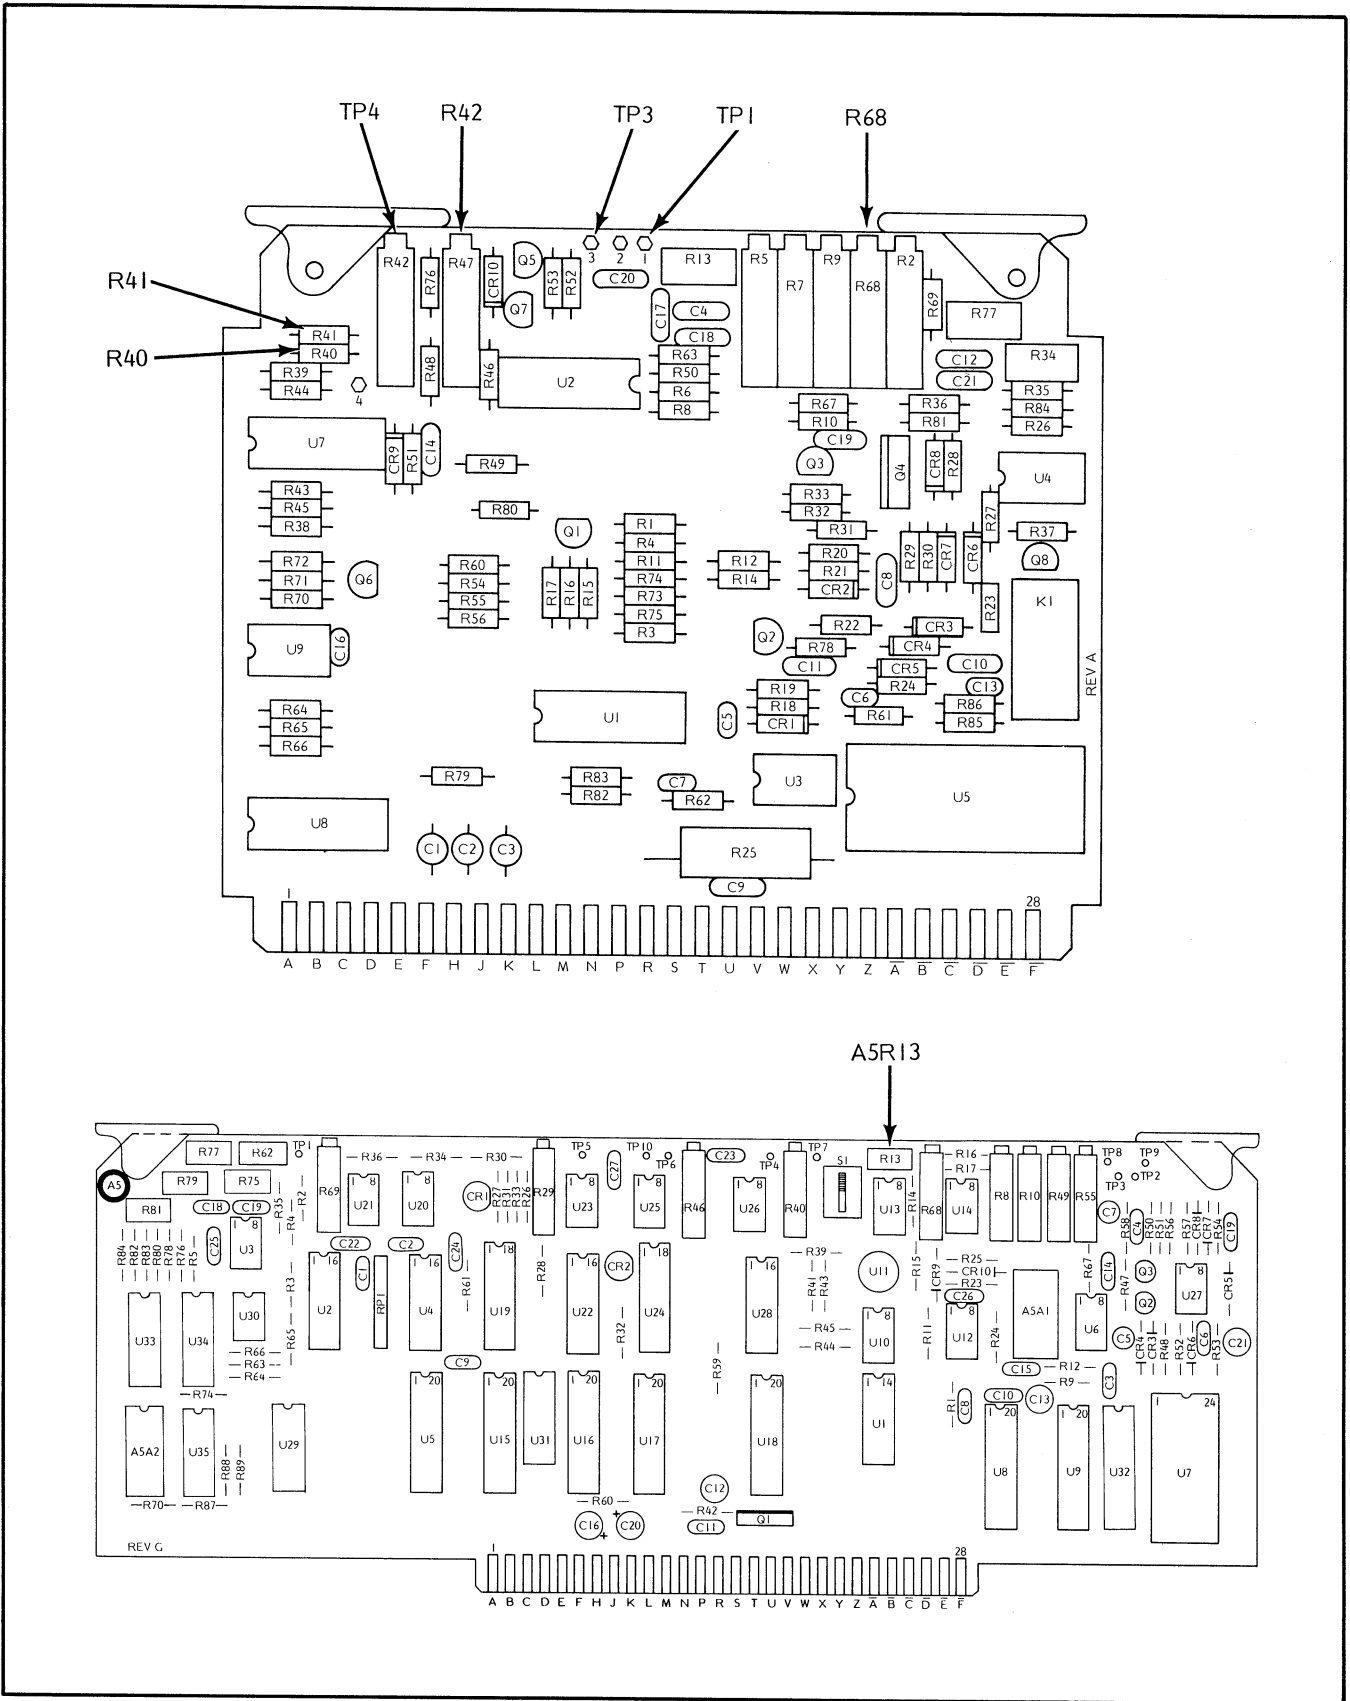

Figure 5-20. A7-A9 YIG Driver Adjustments
(Figure 5-20); connect the common lead to A7TP1.
2. Connect the DMM test lead to A8TP4 (Figure 5-20); connect the common lead to A8TP1.
1. Look in the upper-left quadrant of the applicable A7-A9 PCB and determine whether resistors R40 and R41 are installed (Figure 5-20).
- (b) Connect the digital multimeter (DMM) test lead to TP3 (Figure 5-20); connect the common lead to TP1.